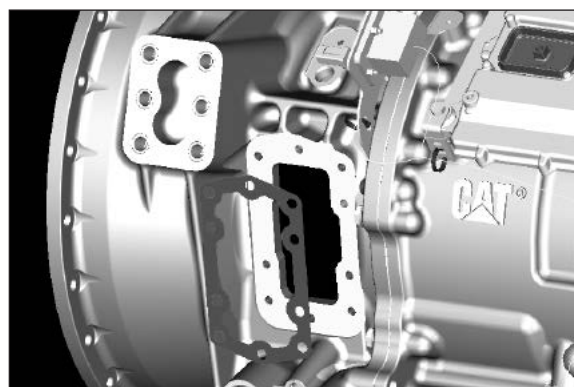

Fig. 29
2. Remove the gasket and clean the aperture surface (**Fig. 29**).